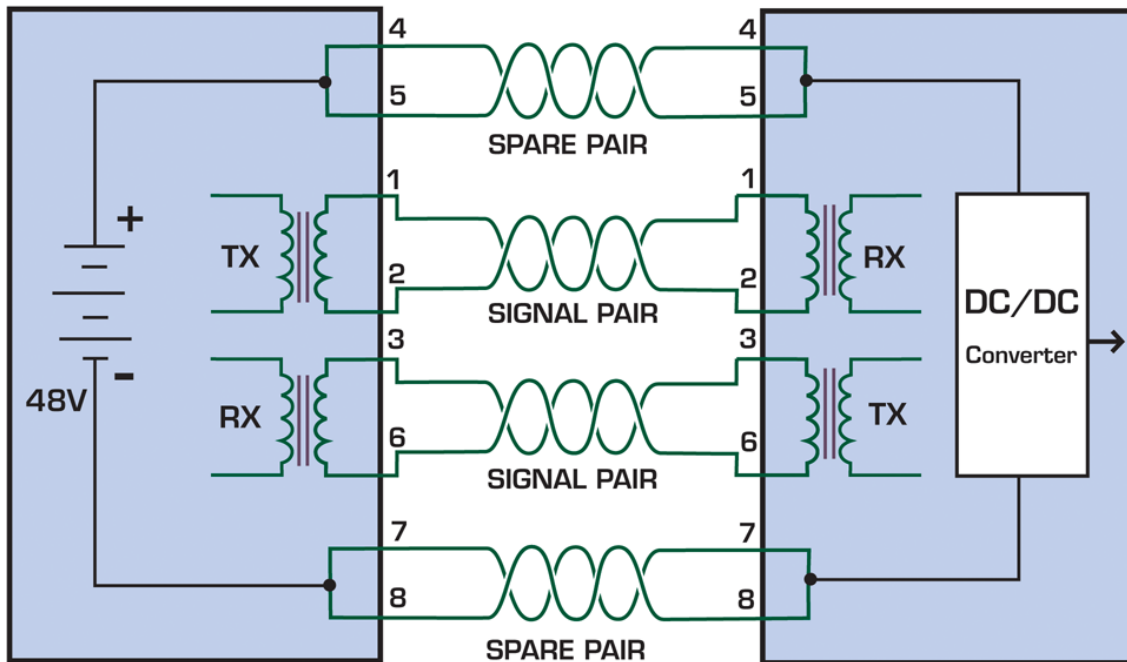

Figure 1 - Power through the Cable on the Spare Pairs
1. If the two spare pairs of wires on the CAT5 cable is used, as explained on figure 1 below, The pair on pins 4 and 5 connected together and forming the positive supply, and the pair on pins 7 and 8 connected and forming the negative supply.